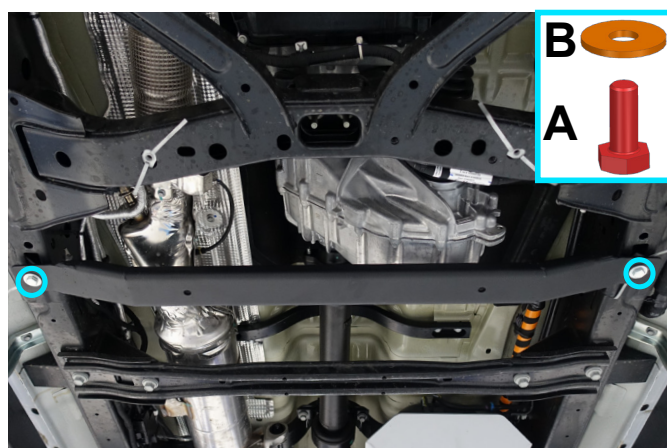

Fig. 3
2. Fix the mount bracket (item 2) to insert nuts M10 (item D) or OE cage nuts, using bolts M10x30 (item A) and washers 10 (item B) or OE fittings, as shown in fig.3.